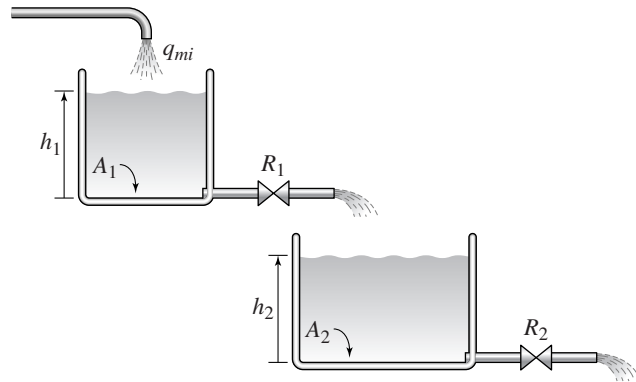

Figure P30
- Use the subsystem block developed in Section 10.7 to construct a Simulink model of the system shown in Figure P30. The mass in flow rate is a step function.
33. Refer to Figure P30. Suppose there is a dead time of 10 sec between the out ow of the top tank and the lower tank. Use the subsystem block developed in Section 10.7 to create a Simulink model of this system. Using the parameters given in Problem 30, plot the heights  $h_1$  and  $h_2$  versus time.